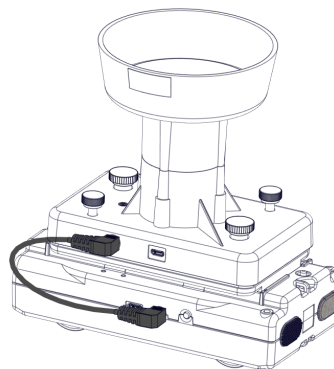

Figure 2. Smart Ballistic Cart Accessory connected to a Smart Cart.
2. Connect the Smart Ballistic Cart Accessory to the Smart Cart using the Smart Cart accessory cable (Figure 2).